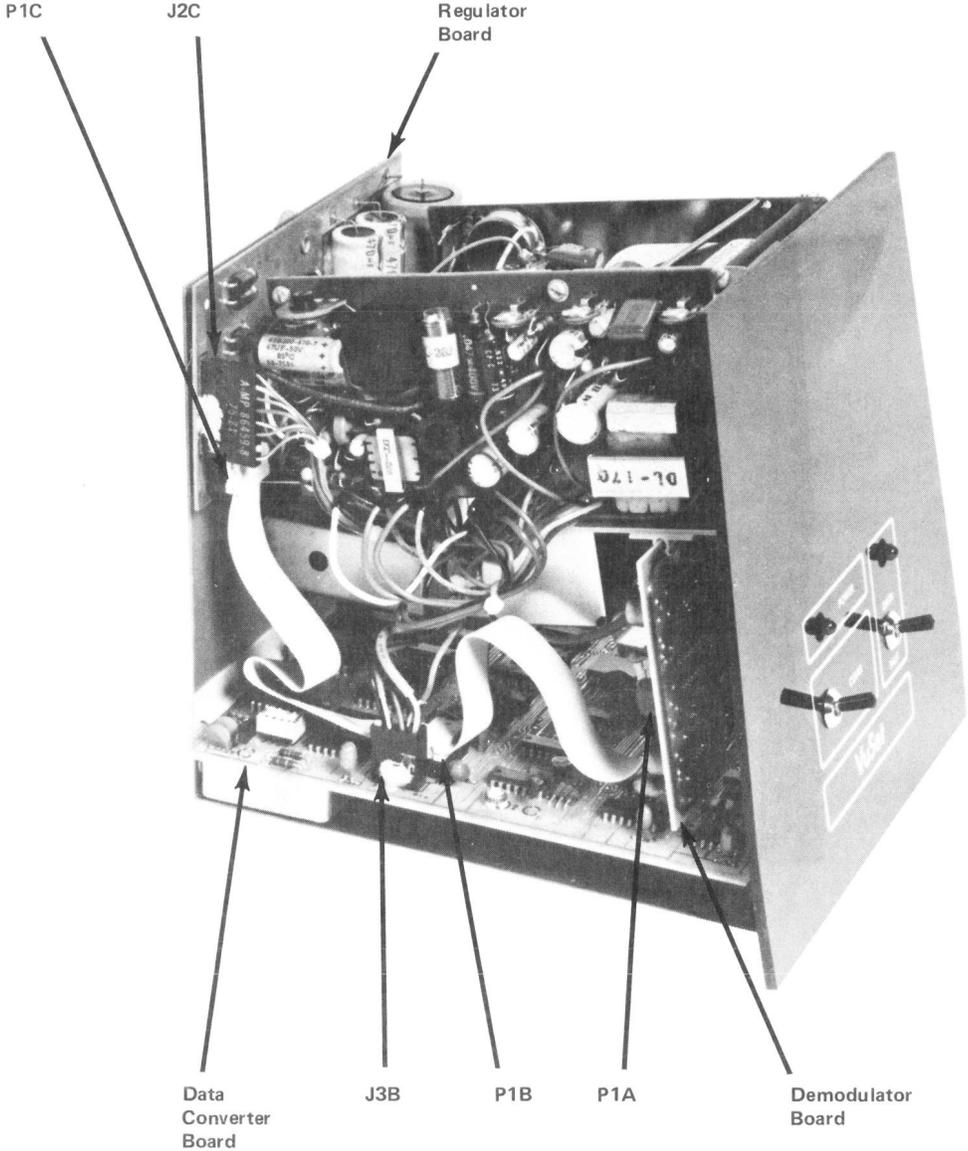

Figure 22, Left Side of Chassis
- d) Disconnect connectors J2C and P1C from the regulator board. (See Figure 22)
- e) Connect J2C and P1C to the regulator board. (See Figure 22)
- d) Disconnect P1B, J2B and J3B from the data converter board. (See Figures 22 and 24)
- b) Connect P1B, J2B and J3B to the data converter board. (See Figures 22 and 24)
- e) Disconnect P1A and J2A from the demodulator board. (See Figures 22 and 24)
- d) Connect P1A and J2A to the demodulator board. (See Figures 22 and 24) Reconnect spring retainers whenever completing an electrical reconnection.
- d) Disconnect J3B from the data converter board. (See Figure 22)